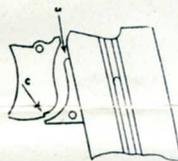
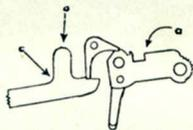

FIGURE 4
FIGURE 6
2.—The pistol also has a magazine safety, which guarantees additional safety of the arm when a live round is in the chamber, thus permitting firing of the cartridge only when the magazine is replaced. In effect, (Figure 4), the magazine, when in place, maintains the piece «a» in such a position that no part of it obstructs the trigger. However, when the magazine is removed (Figure 5), the piece «a», through the action of its self-contained spring, engages a notch in the trigger, thus preventing any movement of the trigger and discharge of the gun. Because of the contact between the sear and the hammer, the pistol, when loaded and with the hammer cocked, cannot be discharged involuntarily. The pistol in this way is secure and safe and even if the hammer accidentally releases while cocking there is little risk that the pistol will fire. To fire the pistol it is necessary that the trigger actually be pulled, requiring voluntary action to do so. In effect, when the hammer is cocked (Figure 6), it is drawn back on its axis from position I to position II, at the same time, the sear, mov-